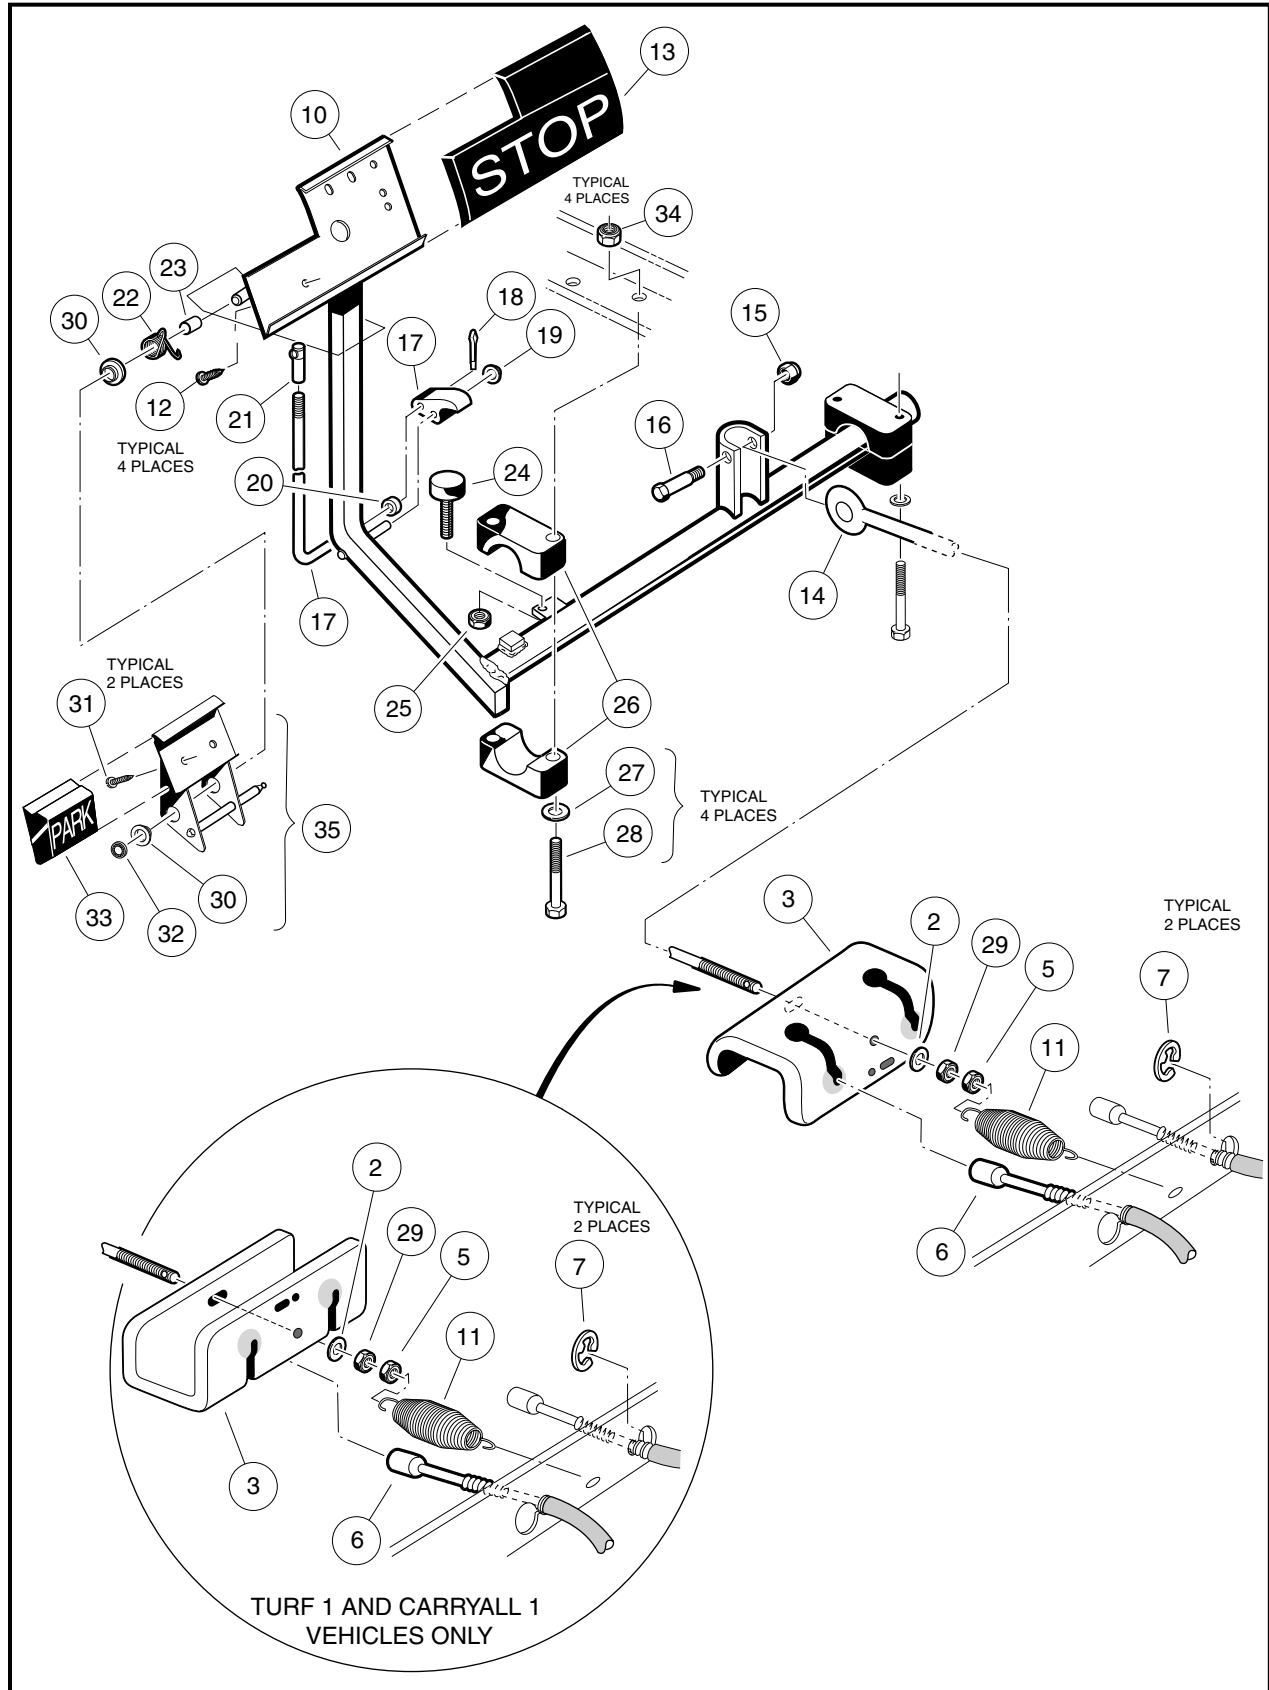
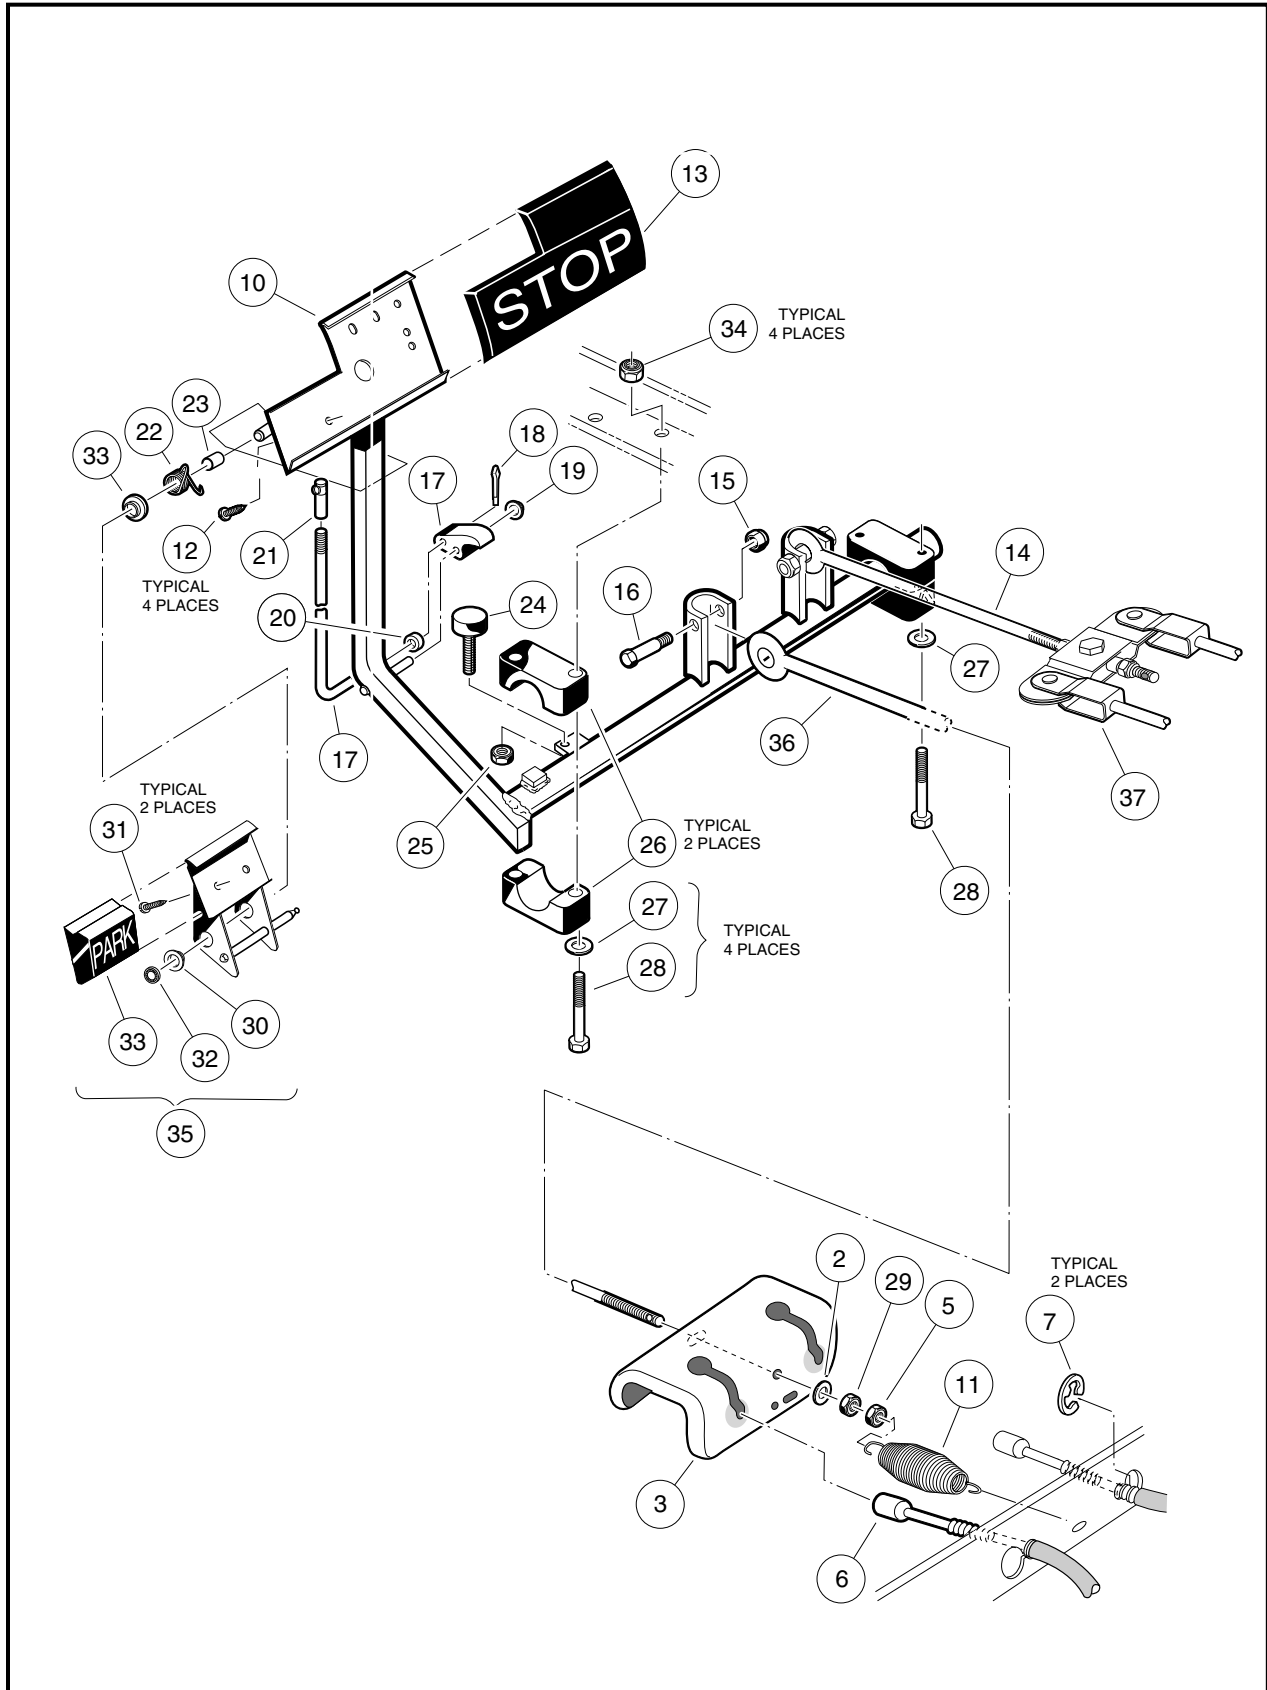
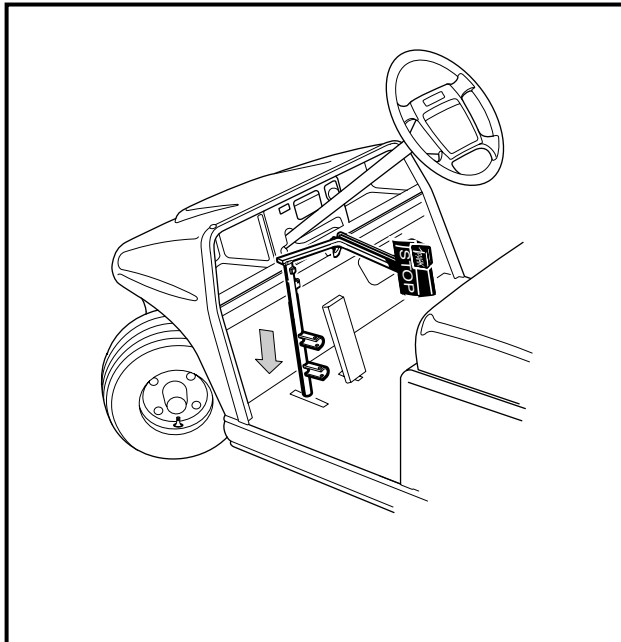

Figure 5-1 Brake and Park Brake Pedal Assembly and Mounting – Two-Wheel Brake Vehicles
Figure 5-2 Brake and Park Brake Pedal Assembly and Mounting – Four-Wheel Brake Vehicles
Figure 5-3 Brake Pedal Weldment Through Floor
- 3.1. Remove shoulder bolts (16) and nuts (15) then disconnect the rod(s) (14 and 36) from the pedal shaft (**Figure 5-1, Page 5-2 or Figure 5-2, Page 5-3**).
- 3.2.1. Remove the nuts (34), flat washers (27), bolts (28), and mounting blocks (26). If the mounting blocks (26) show signs of excessive wear or are damaged, they must be replaced with new ones before installing pedal assembly (**Figure 5-1, Page 5-2**).
- 3.3.1. Remove the nuts (34), flat washers (27), bolts (28), and mounting blocks (26). If the mounting blocks (26) show signs of excessive wear or are damaged, they must be replaced with new ones before installing pedal assembly (**Figure 5-2, Page 5-3**).
- 3.4. Remove the nut (25) and brake stop bumper (24) (**Figure 5-1, Page 5-2 or Figure 5-2, Page 5-3**).
- 3.5. Lift the pedal assembly (10) through the floorboard (**Figure 5-3, Page 5-4**).
1. From the top side of the floorboard, insert the brake pedal assembly (10) (**Figure 5-1, Page 5-2 or Figure 5-2, Page 5-3**) through the opening in the floor as shown (**Figure 5-3, Page 5-4**) and install the brake pedal stop bumper (24) (**Figure 5-1, Page 5-2 or Figure 5-2, Page 5-3**) on the brake pedal assembly, but do not tighten the jam nut (25) at this time.
2. Attach the equalizer rod(s) (14 and 36) to the brake pedal assembly (10) as shown (**Figure 5-1, Page 5-2 or Figure 5-2, Page 5-3**). Tighten to 17 in-lb (1.9 N·m). **See following NOTE.**
3. Position and attach brake pedal assembly, mounting blocks (26), and washers (27) to vehicle frame as shown. Tighten the bolts and nuts to 113 in-lb (12.8 N·m) (**Figure 5-1, Page 5-2 or Figure 5-2, Page 5-3**).
- 3.1. To remove the park brake rod and pawl assembly (17 through 20), remove the push nut (19) and disconnect the ball joint sleeve (21) from the park brake pedal (35) (**Figure 5-1, Page 5-2 and Figure 5-2, Page 5-3**). **See following NOTE.**